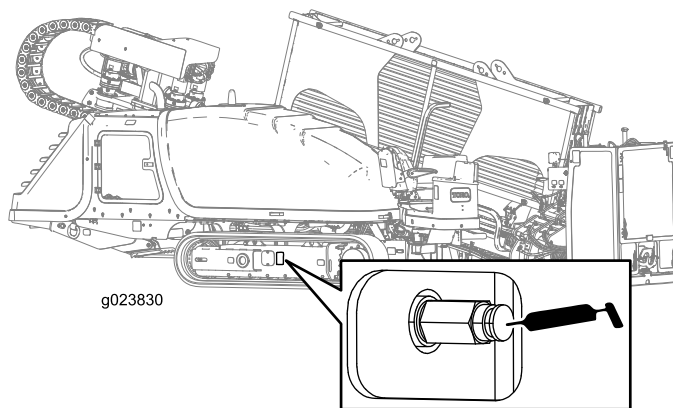

Figure 139
2. Remove dirt and debris found around the track-tension grease valve (Figure 139).
4. Apply grease to the fitting until the tension reaches 31,026 kPa (4,500 psi) as shown in Figure 139.
4. Turn the track-tension grease valve counterclockwise **no more than 1 revolution** (Figure 139).